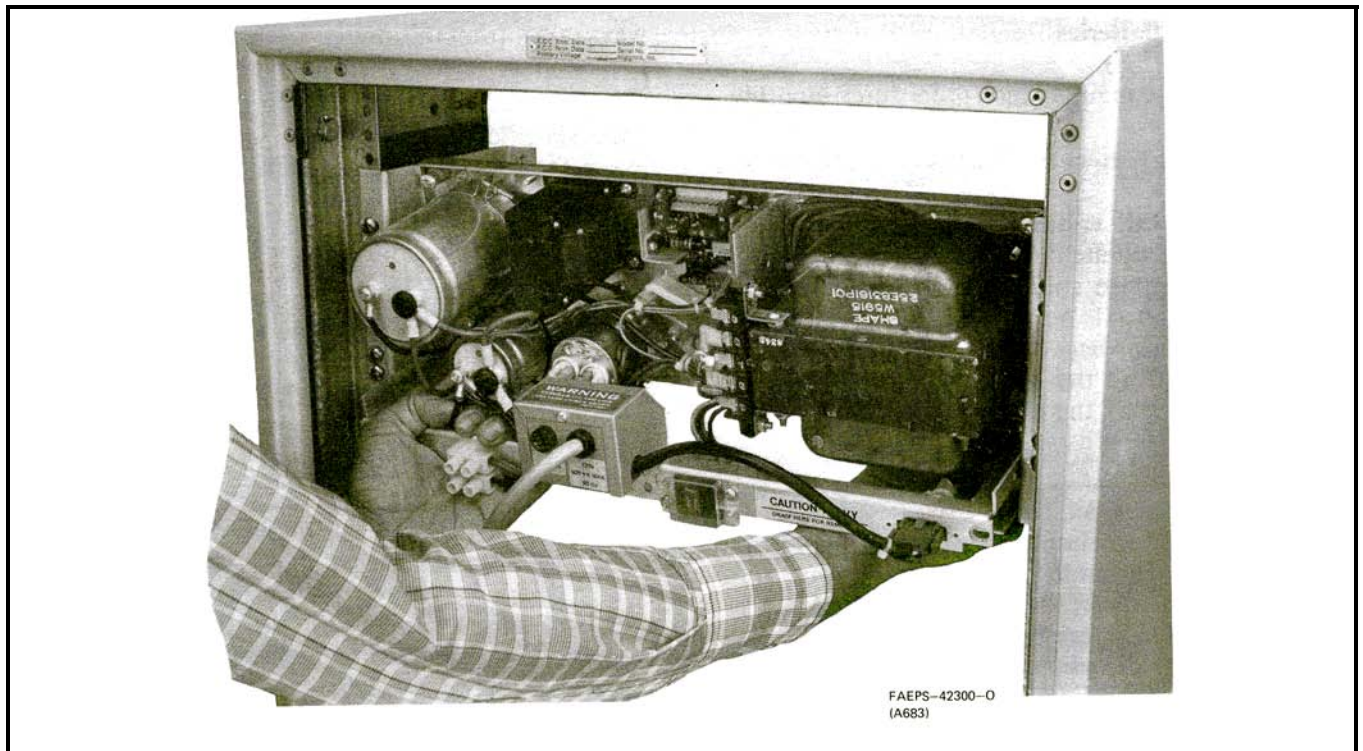

Figure 5. Properly Gripped Chassis
Step 4. Grip the main chassis with the right hand as shown in Figure 5. Find a comfortable grip around the flattened parts of the metal. Adjacent parts have sharp edges.
Note wrist position in Figure 5.